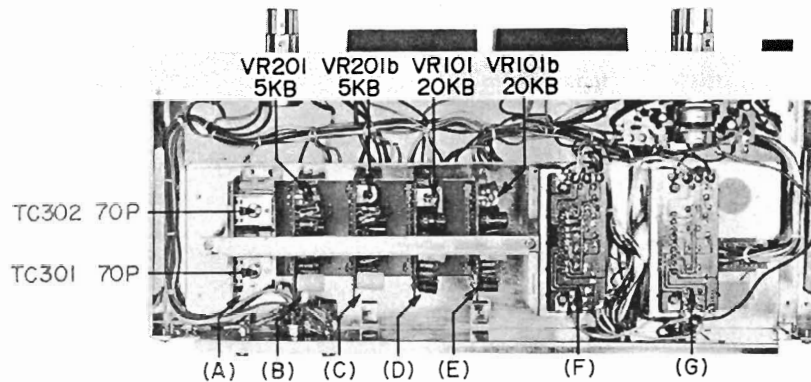

Fig. 16
- 4) Adjust the Playback Amp. P.C. Board playback level adjustment semi-fixed resistor VR10I 50 k $\Omega$  (left ch.) and VR10Ib 50 k $\Omega$  (right ch.) shown in Fig. 16 so that the High Sensitivity V.T.V.M. indication is 4 dB (1.228V).
- 5) Set the Monitor Switch to SOURCE position and adjust Recording Amp. P.C. Board recording level adjustment semi-fixed resistors VR201 5 k $\Omega$  (left ch.) and VR201b 5 k $\Omega$  (right ch.) shown in Fig. 16 to obtain a Line output level of 4 dB.